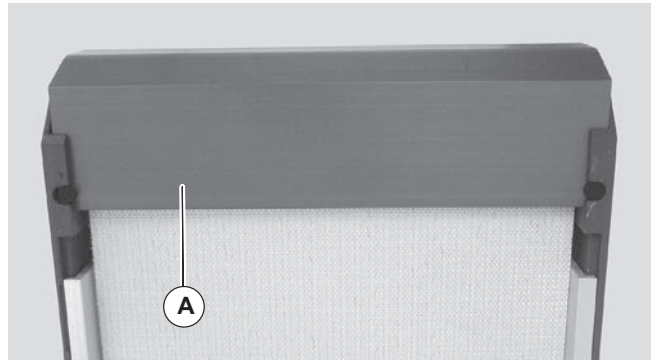

Figure 3
3. Install transfer plate (Figure 3, item A) into assembly slot as shown in Figure 3.